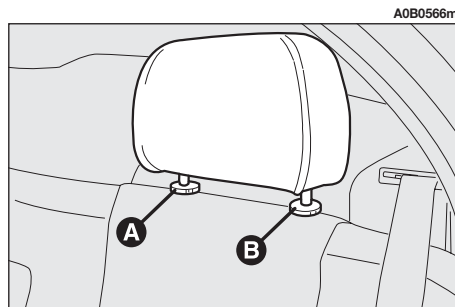

fig. 31
- press both buttons (**A** and **B**-fig. 31) and remove the headrests.